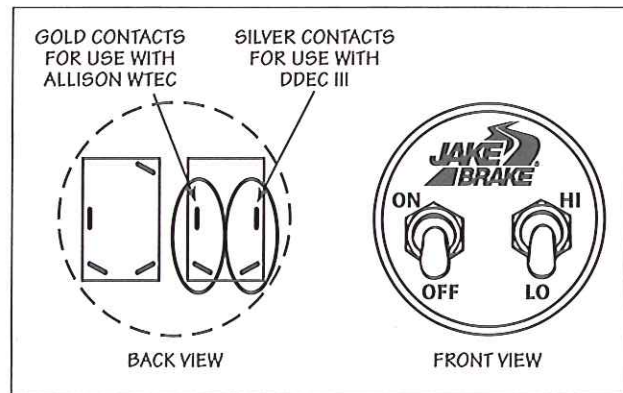

FIG. 27
2. If the engine brake request requires a positive signal, connect the engine brake request wires to the gold contacts on the ON/OFF portion of the switch group to a positive switched voltage source (+VDC) as shown in Fig. 27 (previous page).